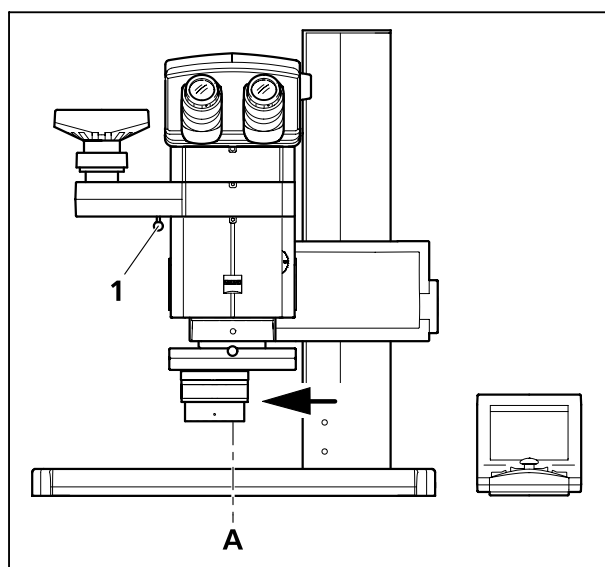

Fig. 48 Objective slider S/doc with intermediate phototube
for vertical and monocular imaging, via the left light path, of a specimen detail 12 mm to the left from position **A** (Fig. 48).
- Push the sliding knob (Fig. 48/1) to the front stop position to deflect the light ray to the camera port.